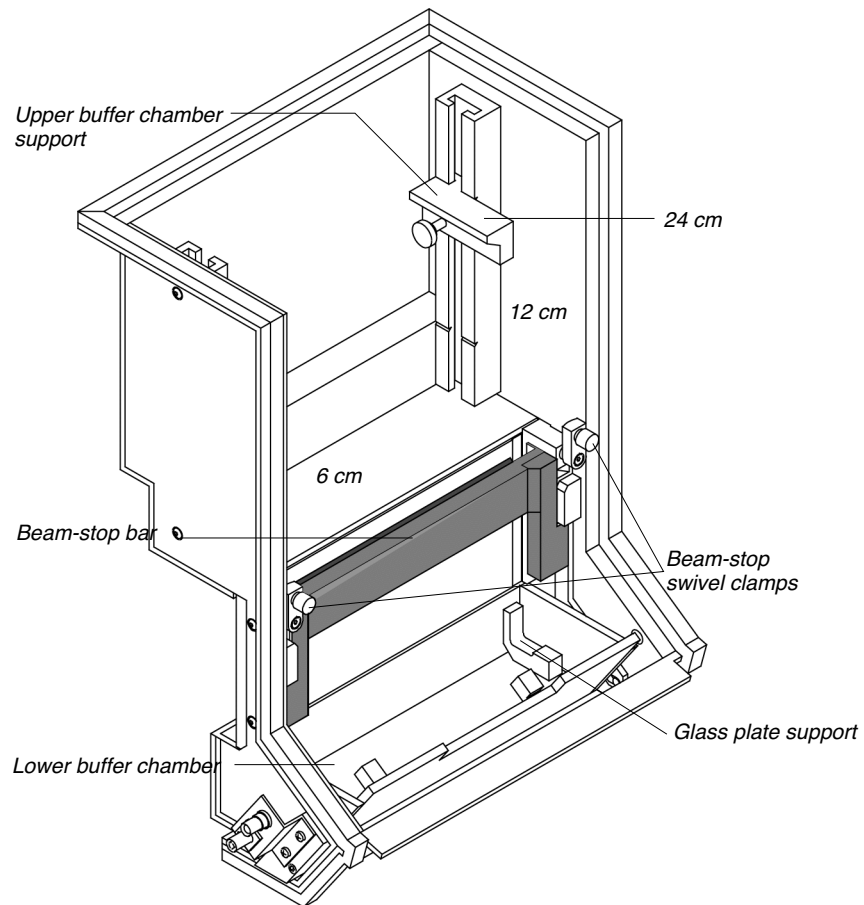

Figure 4-4. Model 373 (Leon) Electrophoresis Chamber
3. Adjust the upper buffer chamber supports to accommodate the different plate lengths (6, 12, and 24 cm) (refer to Figure 4-4 on page 4-13. Loosen the screws and slide the brackets to the correct position as indicated by the well-to-read length printed on the supports, and then tighten the screws.
- a. Pull the black beam-stop bar in the electrophoresis chamber towards you until it stops (Figure 4-4 on page 4-13).